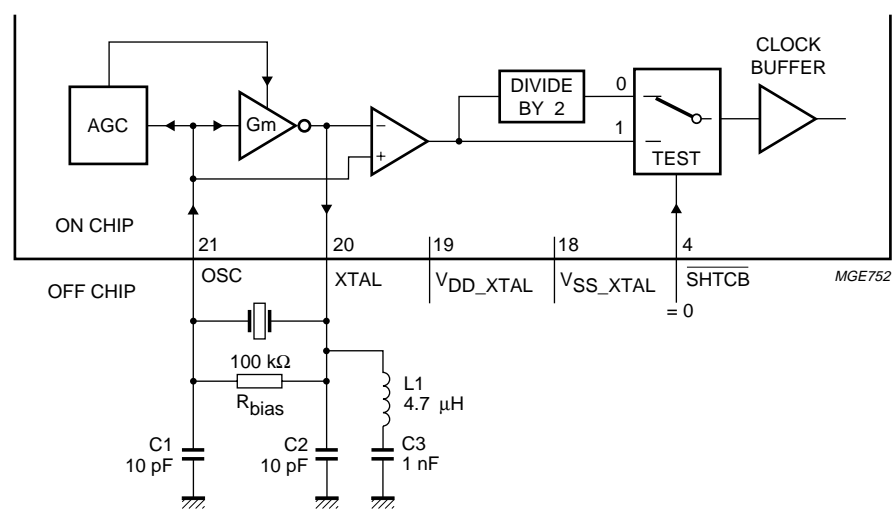

Fig.3 Block diagram crystal oscillator circuit.
The chip has an on board crystal clock oscillator. The block schematic of this Pierce oscillator is shown in Figs 3 and 4. The active element needed to compensate for the loss resistance of the crystal is the amplifier Gm. This amplifier is placed between the XTAL (output) pin and the OSC (sense) pin. The gain of the oscillator is internally controlled by the automatic gain control. This prevents too much power loss in the crystal. The higher harmonics are then as low as possible. The signals on the OSC and XTAL pin are differentially amplified.
**The crystal oscillator mode:** in this mode (see Fig.3), a quartz crystal oscillator is used to generate a clock signal which is subsequently divided by 2 to ensure that the final clock signal has a 50% duty cycle.